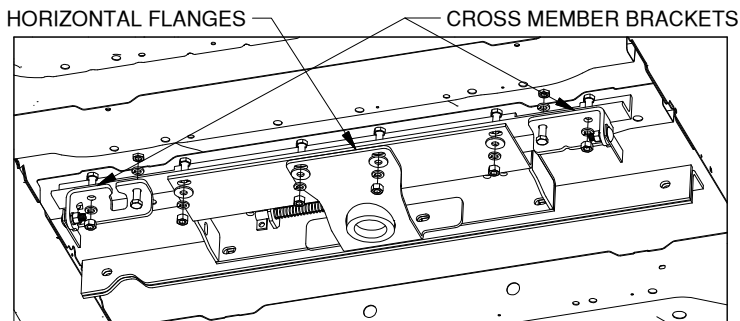

Figure G1: Looking up under truck bed (frame not shown).
- 2. Attach rear cross member.** Position the rear cross member so that the holes in its horizontal flange line up with the holes in the cross member brackets, and the holes in the horizontal flange of the center section. Attach these four parts together using the 1/2" x 1-1/2" long bolts, flat washers, lock washers, and nuts, as shown in Figure G1.